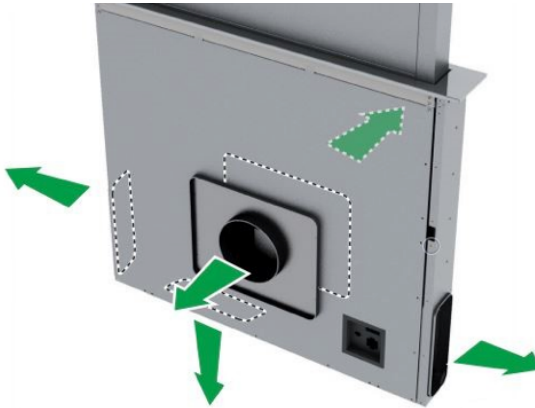

Fig. 22
9. For versions with external motor, place the suctioning unit (external motor) in a suitable area and fit the exhaust air flue as illustrated. Then fit the air outlet ducts between the external motor and the down-draft. Select an air outlet from the five possibilities (Fig. 22) and fit the union supplied with the appliance.